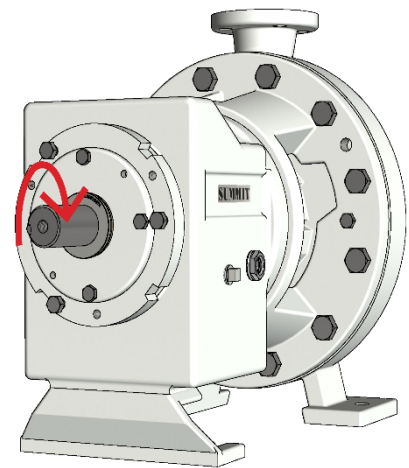

Figure 6-4: Rotation
1. Check that driver rotation agrees with pump rotation. (the pump shaft rotation is clockwise when viewed from the driven end of the pump, as shown in Figure 6-4).
The pump can only operate in a clockwise rotation when viewed from the driven end of the pump Figure 6-4. If the pump is accidentally operated in a counterclockwise rotation, shut down the pump and Lockout/Tag out any power sources to the pump. The impeller may have unthreaded and seized to the casing. Check for damage with the casing, impeller, and shaft. Ensure the impeller is threaded on the shaft. If any damage is found or the impeller came loose a full inspection of the pump is recommended.